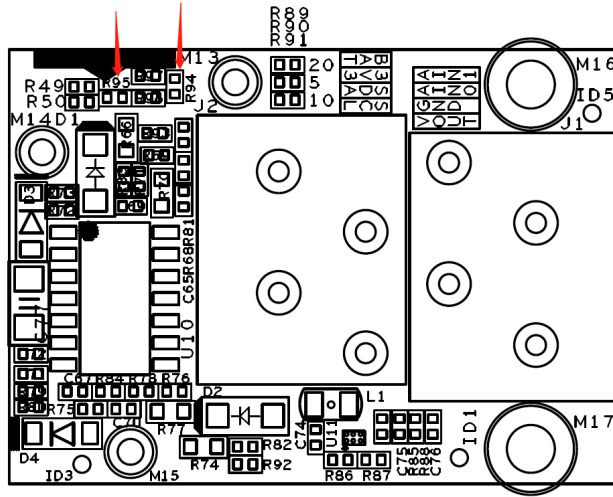

Figure 13: R94 and R95 on RAK5801.
- In RAK5811, remove R94 to R95, and use PA0 of STM32L151 to read the analog data of the channel "analog0", and use PA2 of STM32L151 to read the analog data of Channel analog1. **Figure 13** shows the resistors R94 and R95 on the RAK5811 module.
- In RAK5811, remove R94 to R95 (see Figure 13), and use PA08 of ATSAMR34 to read the analog data of the channel “analog0”, and use PA09 of ATSAMR34 to read the analog data of channel analog1.